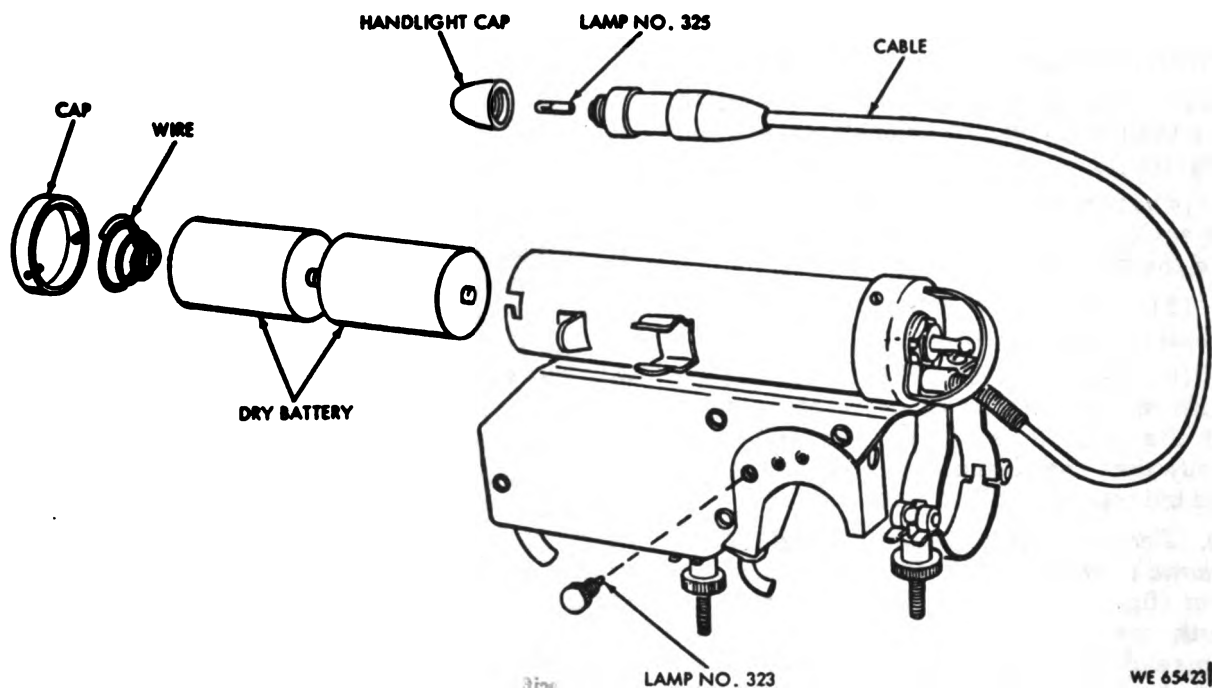

Figure 171. Instrument light M34 - partially exploded view.
(1) To replace batteries in the instrument light M34 remove cap on battery tube (fig. 171). The cap is secured by pins in two bayonet slots and is removed by pressing the cap inward and turning slightly until free. When installing the batteries in the bodytube, be sure they go back into the same position as when removed. See that the pins in the cap engage the bayonet slots in the body to assure a tight contact with battery terminals.
(1) To remove a defective lamp in the hand light or lamp housing of the instrument light, refer to figure 171.